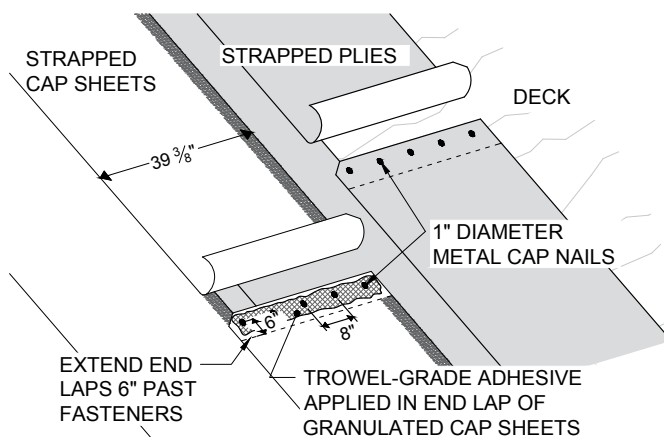

Figure 14 - Construction of T-Joints at End Laps in Strapped Installations
T-joints at end laps are treated the same way for both ply and cap sheet layers but widened from 6" (152 mm) to 7"-8" (178-203 mm) in order to add fasteners: five (5), 1" (25 mm) diameter metal cap nails. Position them an inch (25 mm) back from the leading edge of the underlying sheet and 8" (203 mm) O.C. The overlapping *head lap* should terminate a minimum of 6" (152 mm) past the fasteners. (See Figure 14)